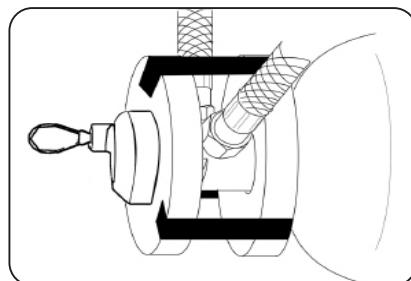

FIGURE 845
- 6.8 Insert two pieces of protective foam onto the operating head and tape together, using 100 mm (4") adhesive tape. Refer to FIGURE 845. Lay the liferaft flat on the table again.